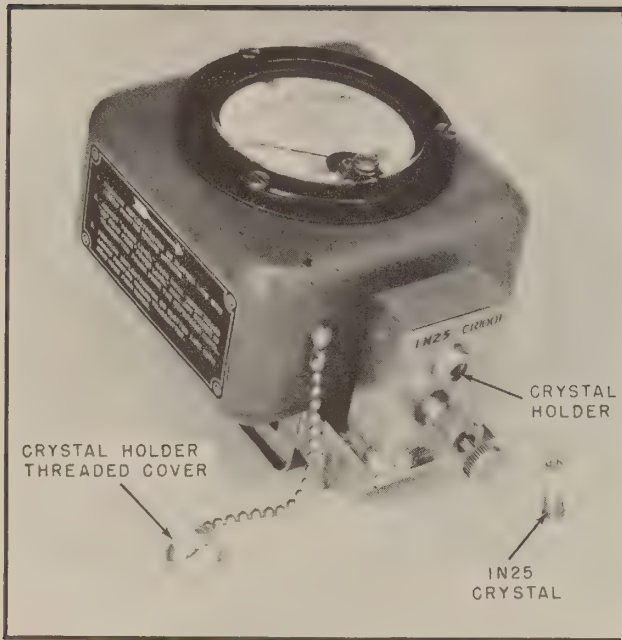

Figure 7-66C. Standing Wave Ratio Indicator IM-120/UPM-79: Replacement of 1N25 Crystal
(4) Replacement of 1N25 Crystal (See Figure 7-66C)